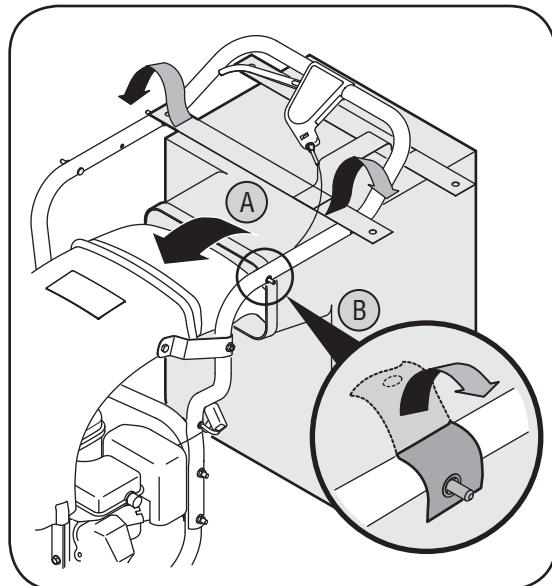

Figure 6
6. a. Place bag under the upper handle assembly and slip the front opening on the bag over the discharge chute, making certain it is over the rim on the discharge chute. Follow direction of the arrows in Figure 6.
b. Place the four straps on top of the bag over the upper handle, hooking them on the studs to secure in place. See Figure 6.